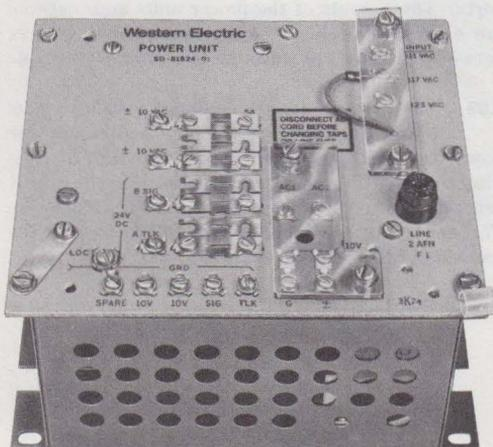

Fig. 2—19C3 Power Unit (Rack Mounted)
19C3—19A3 with hardware for mounting in a Key Service Unit or relay rack (see Fig. 2).
4.08 The 19C3 power unit is equipped with a spare ground terminal provided for grounding one side of a supplementary 18VAC supply, when required for use in the system. (Fig. 2)